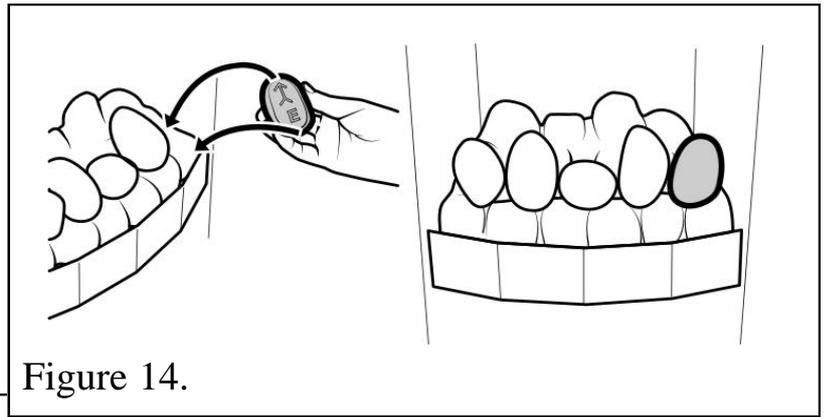

Figure 14.
7. Hold pebble 'E' upright with the arrow pointing to the top. Place pebble 'E' on top of the base pebble (See figure 14).